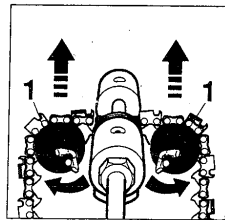

fig. 2
- 1- Lay chain across the 2 plastic supports (1) (fig. 2) and adjust its height by rotating them.